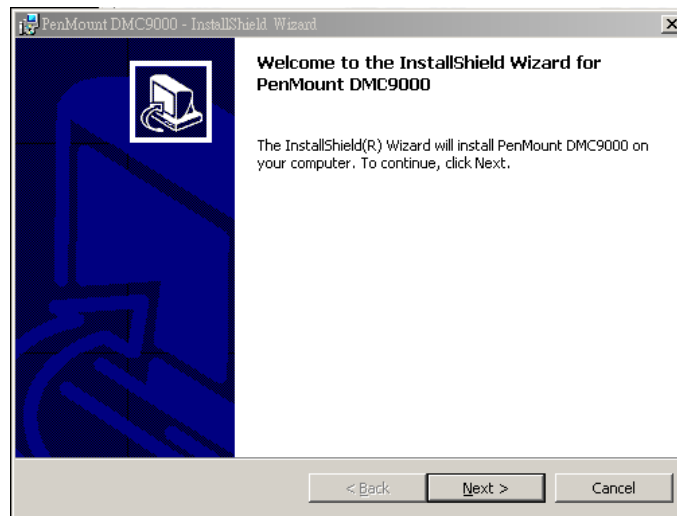

Figure 7-19: Welcome Screen
Step 2: A welcome screen appears (**Figure 7-19**). To continue the installation process click **NEXT**.